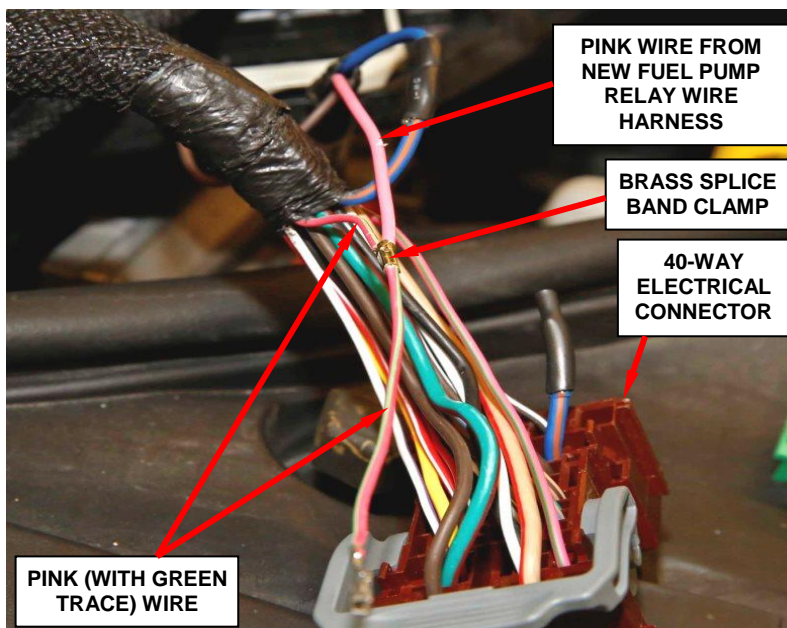

Figure 20 - Crimp and Solder Pink Wire to Pink (with Green Trace) Wire
- b. Wrap the pink wire from the new fuel pump relay wire harness around the pink (with green trace) wire at the location the insulation was removed (Figure 20).
- c. Using the supplied brass splice band clamp and crimp tool 10042, crimp the fuel pump wire harness pink wire to the pink (with a green trace) wire on the vehicle wire harness (Figure 20).